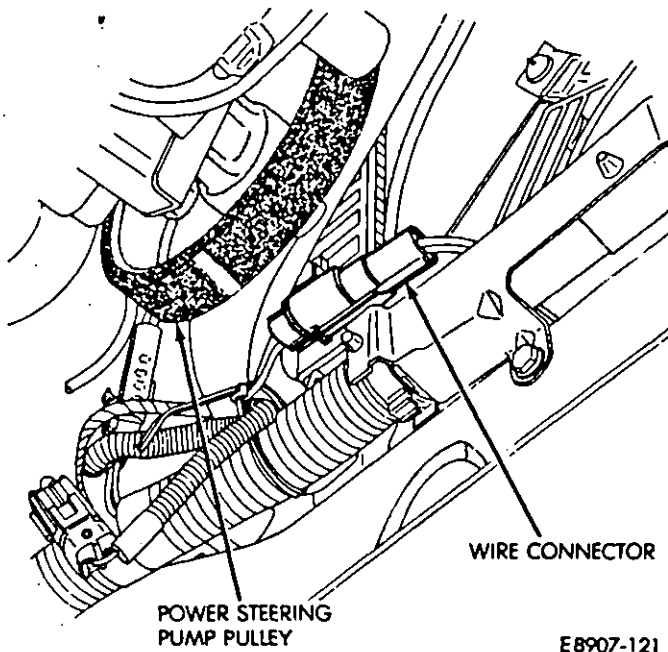

Fig. 14—Fan Motor Wire Connector
- (4) Disconnect fan motor wire connector (Fig. 14).
- (3) Connect fan motor electrical connector (Fig. 14).